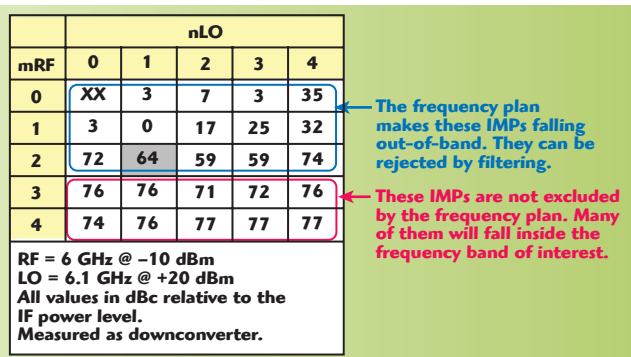

Fig. 1 M × N spurious at IF port for Hittite's HMC141.
**Figure 1** shows the datasheet spur table for the mixer HMC141 from Hittite Microwave Corp. This table represents the mixer rejection to the feedthrough harmonics (the  $nLO$  ( $m = 0$ ) and  $mRF$  ( $n = 0$ ) signals) and the IMPs of the form  $|mRF + nLO|$ . The suppressions are given in dBc below the desired output signal (equal to 0 dBc). The test conditions are single tone RF and LO and conversion to low IF (100 MHz in this case). The spur tables are always referred to specific input and LO signal power levels.